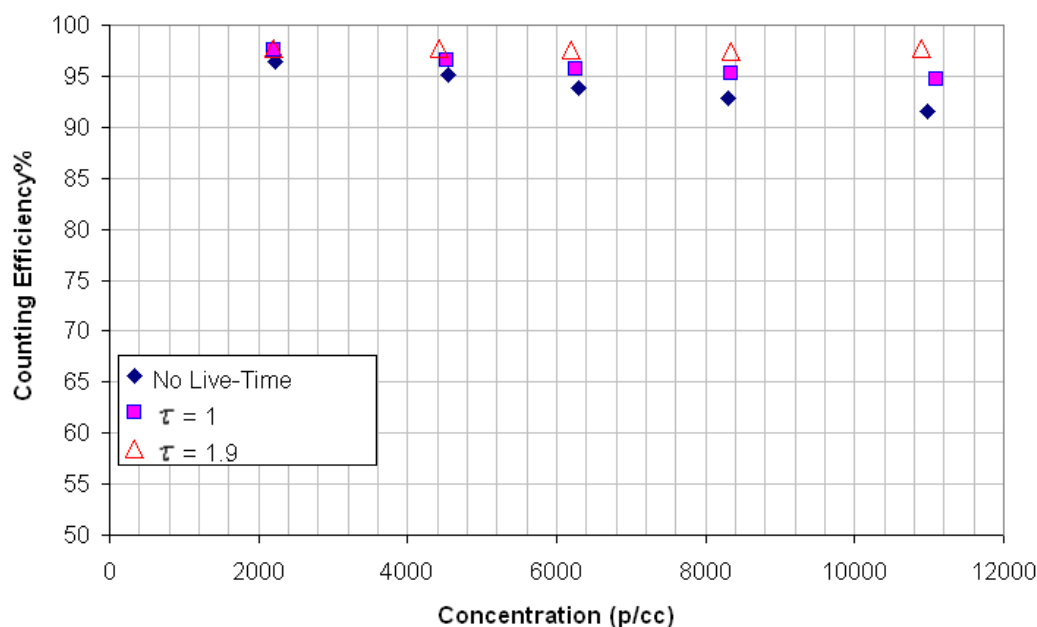

Fig. 1: Counting efficiency of the EECPC Model 3790 using different electronic processing schemes.
Figure 1 shows counting efficiency data from an EECPC Model 3790 using three different electronics processing schemes. No live-time represents data using the total sample time in the concentration calculation as detailed in equation (1). $\tau = 1$ uses equation (3) to calculate concentration, and effectively uses no dead time factor. $\tau = 1.9$ uses a dead time factor of 1.9 and is the default setting of the 3790 CPC.